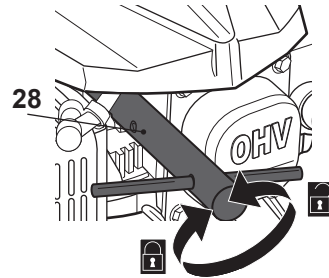

Fig. 23
2. Loosen the spark plug anti-clockwise using the spark plug wrench (28) and remove it carefully (Fig. 23).